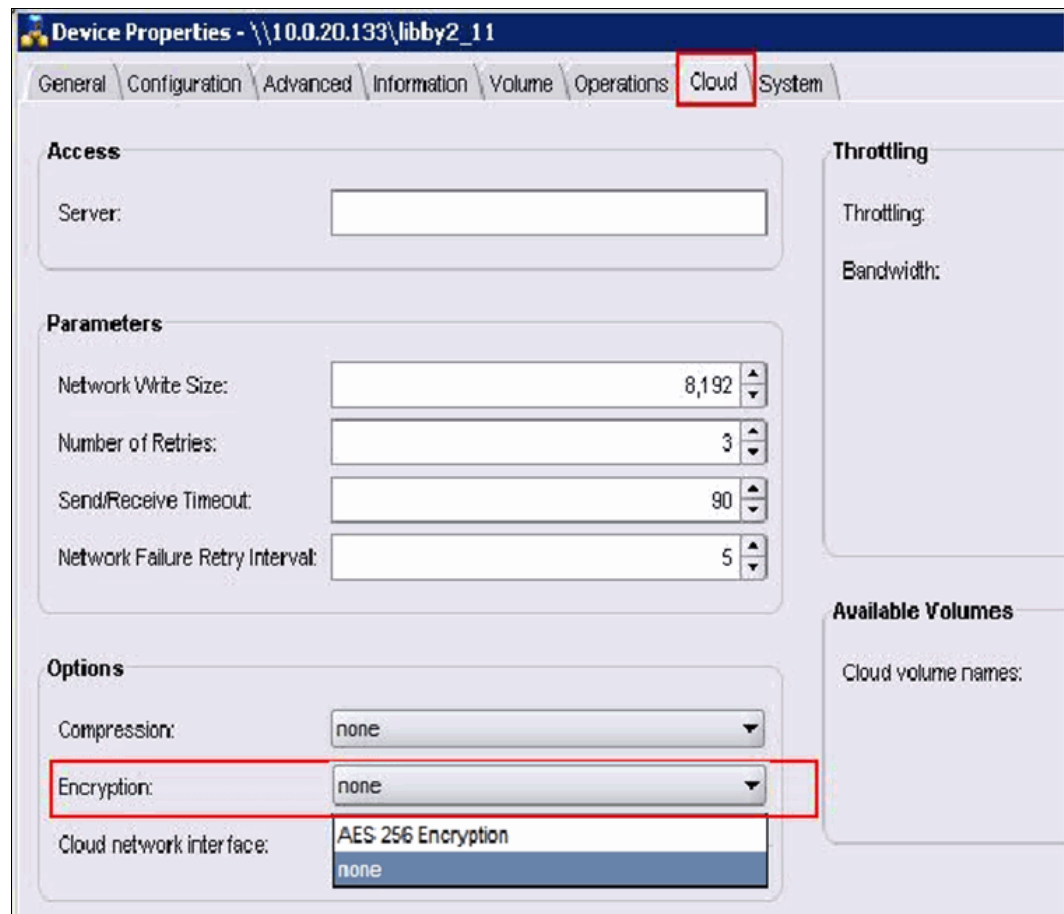

Figure 16-2 Device Properties window - disable encryption
6. Set Compression and Encryption to **none** (Figure 16-2).